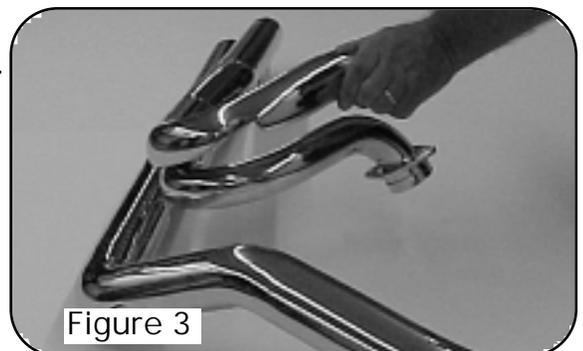

Figure 3
6. Install each heat shield over its respective head pipe (Figure 3).